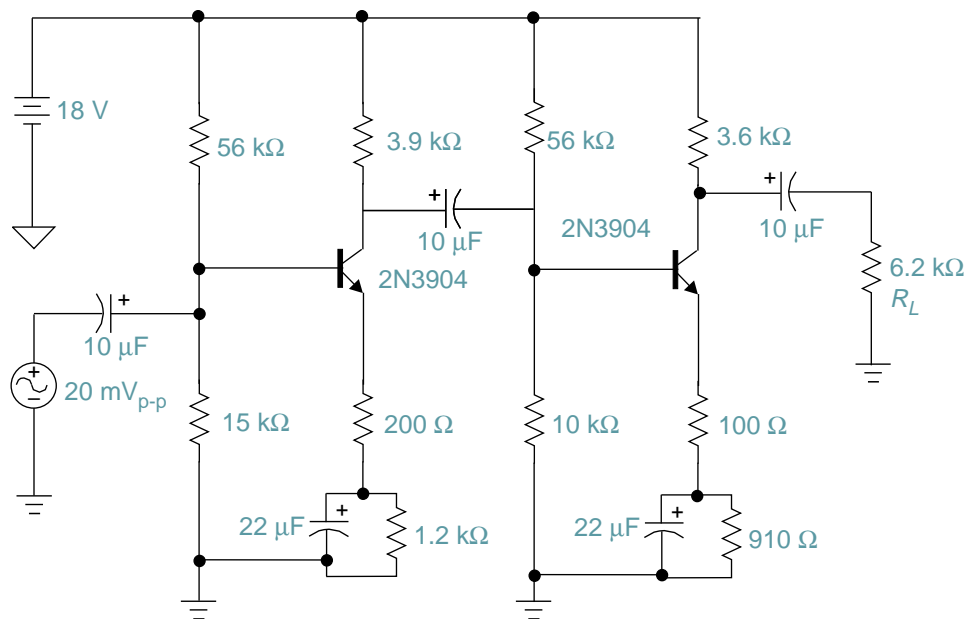

FIGURE 5–22
2. Construct each circuit in Figure 5–21 and measure the values of  $V_B$ ,  $V_E$ ,  $V_C$ ,  $Z_{in}$ ,  $Z_{out}$ ,  $A_v$ , and maximum output voltage swing without distortion. Set the input signal frequency to 2 kHz and the signal magnitude as needed.
1. Calculate and record all values listed below for the amplifier circuit in Figure 5–22.
2. For a minimum frequency of 1 kHz, calculate the minimum capacitor size for each capacitor in the circuit in Figure 5–22.
3. Simulate and record  $V_B$ ,  $V_E$ ,  $V_C$ ,  $A_v$ ,  $Z_{in}$ , and  $Z_{out}$ , for the amplifier circuit in Figure 5–22.
- Construct the circuit in Figure 5–23 and measure the values listed below for the amplifier circuit.